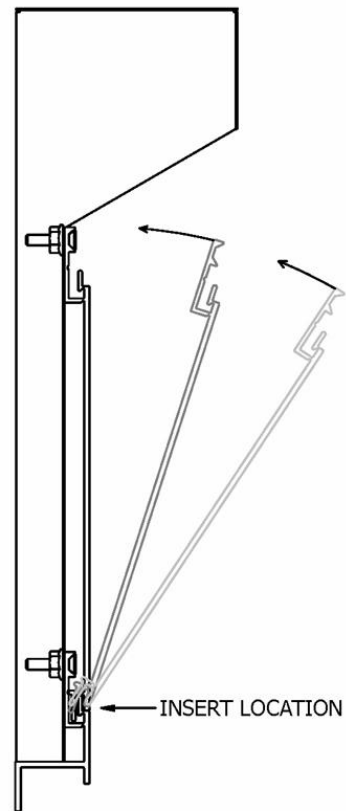

Figure 3
4. For field cut miters, simply insert and pivot next cornice into place (fig. 3), verify miter leg length, cut, drill and fasten as required to achieve true and vertical seam. Factory miters are to be placed just above "shingle flange" and lowered into locking position, fasten as required. (fig 6)
6. Continue installation of cornice stack by simply inserting and pivoting next cornice into position. Fasten as required. (fig. 3)
3. For field cut miters, simply insert and pivot next cornice into place (fig. 3), verify miter leg length, cut, drill and fasten as required to achieve true and vertical seam. Use supplied angle connectors, VHB tape and hardware to mechanically fasten and form miters. (fig. 5) Caulk or touch up miter work as required. Factory miters are to be placed just above "shingle flange" and lowered into locking position, fasten as required. (fig. 6)